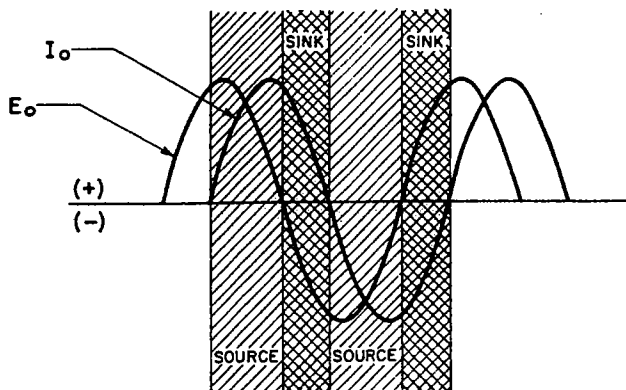

FIG. 1-3 BOP OUTPUT WAVE FORM WITH PHASE SHIFT
**Note:** The BOP is operating as a SOURCE if the direction of its output voltage is *the same* as the direction of its output current. The BOP is operating as a SINK if the direction of its output voltage is *opposite* that of its output current. An illustrative case is shown in FIG. 1-3, where the BOP is programmed to deliver a sine wave output and where the load produces a phase shift between the output voltage and current.